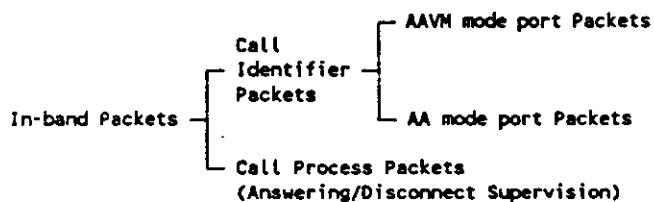

FIGURE 1 IN-BAND PACKET CLASSIFICATION
2.04 In-Band packets are classified as shown in Figure 1, and are sent to the AA/VM under the conditions listed in Table 1.